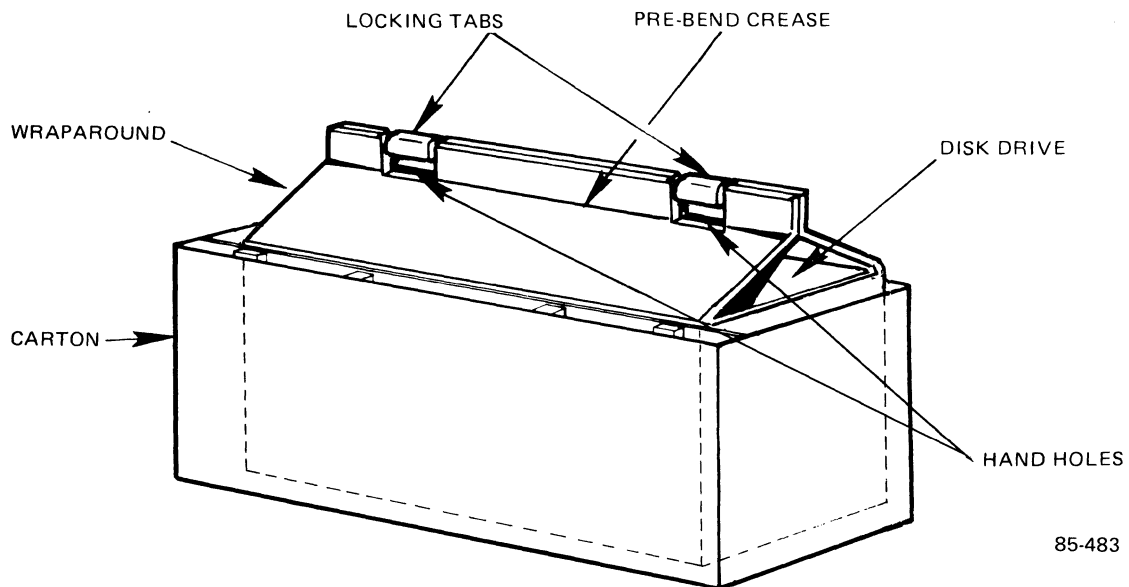

Figure 2-5. Wraparound Shown Inside Carton
8. Locate the crease on each of the two flaps that runs adjacent to the hand holes, and bend these creases upward so that when the two flaps are placed together, the hand holes line up forming handles (see Figure 2-5).